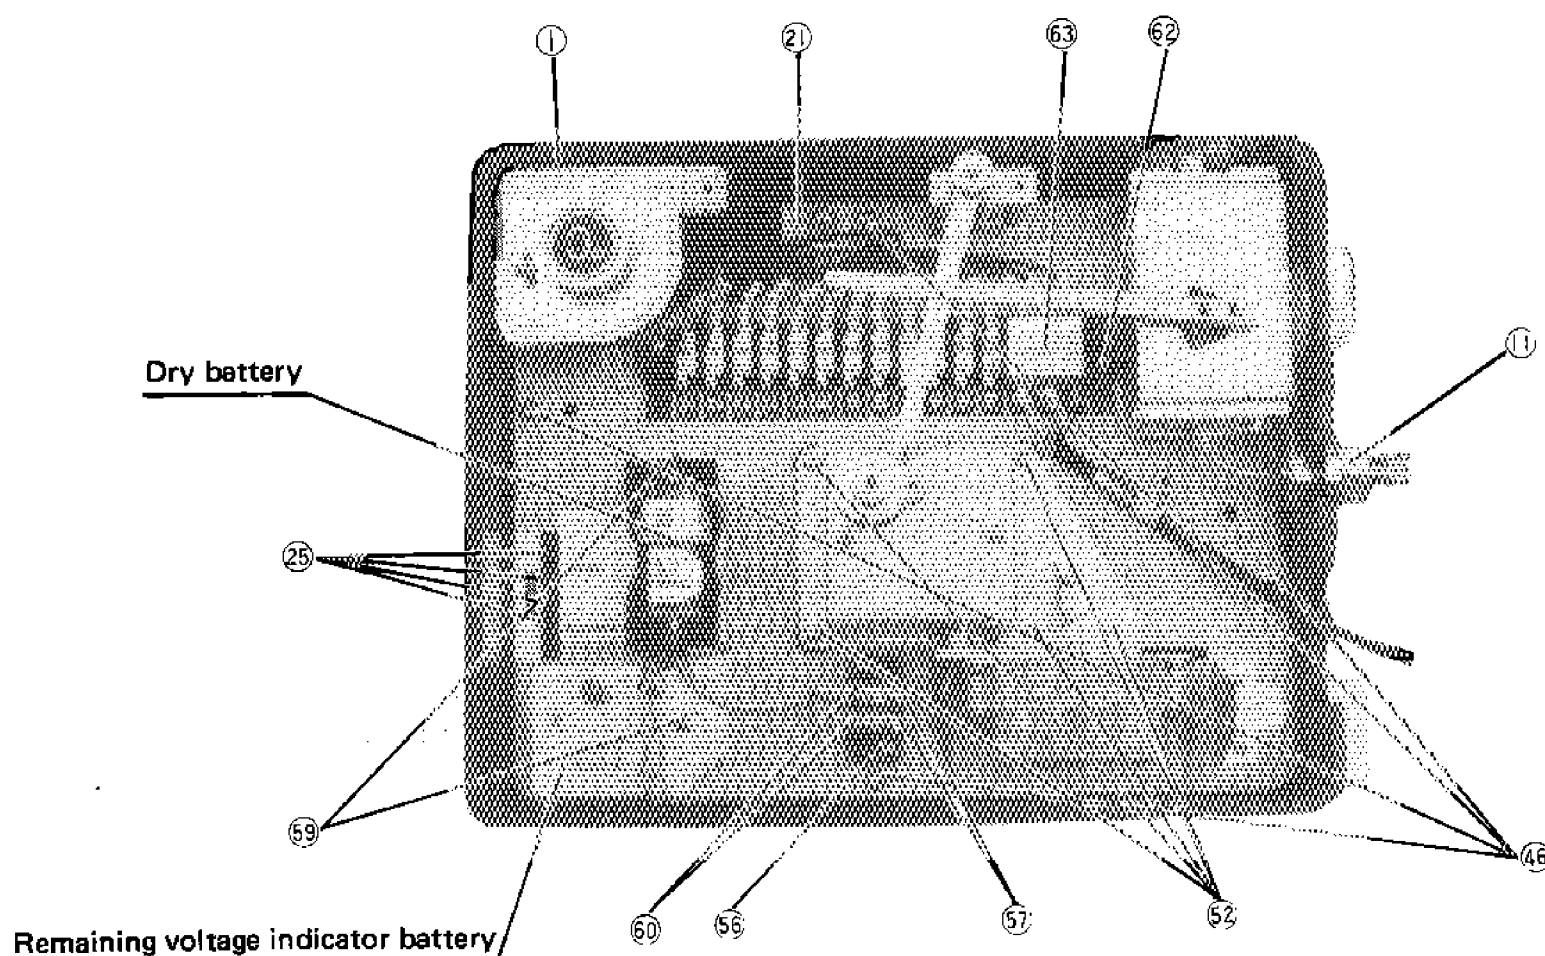

Fig. 3 Internal structure
(1) Remove the recording plate from the body (1) (See Article b. (2)⓪) When it is removed, it looks as shown in Fig. 3. In this state, sensor, timer, remaining voltage indicator and battery and dry battery are replaced.
- In case the pilot lamps for functioning temperature (25) remain unlit although the power source is turned on.
- Remove the recording board, (state shown in Fig. 3). Loosen the screws (62) to remove protection board for impressed voltage (63) loosen terminal screws (Nos. 1 to 3) on the terminal strip (21) and remove the wiring. Then, measure temperature of the feeler part and resistance of the sensor and compare them with the characteristics of temperature resistance shown in Fig. 10, and if they do not accord with them, replace the sensor. If they accord, the main base plate or the volume setter is out of order. So replace it in accordance with Articles d, (2).① and d, (2).②
**(2) Replacing method**
- Replace the recording board, and insert a battery so as not make a mistake in polarity as in the state of Fig. 3 (Fig. 3 shows polarity of a battery). It is advisable to use a battery similar to SUM-2 of JIS C8501 and R14 of IEC. (Dry battery DC1.5V)
**② Remaining voltage indicator battery**
**(1) Replacing standards**
- Remove the recording board (state shown in Fig. 3). Loosen two screw bolts (59) and two screw bolts (60), and the remaining voltage indicator battery can be removed from the indicator body. So replace it with a new battery.
- When replacing, connect the wires to the terminal strip (56) in a way red wire to red and black wire to black.
- Remove the recording board (state shown in Fig. 3). Loosen two screw bolts (57) from the terminal strip (56) to remove the wires. Then remove five screw bolts (58) to replace the timer with a new one.
- When replacing the timer, replace the attached vibration isolators (5 pcs) at the same time. The red wires are for + current and the black wires – current. Connect the wires to the terminal strip (56) in a way that red wires are connected to red and the black wires to black. Tightening torque for vibration rubber is 4 ~ 5 kg-cm.